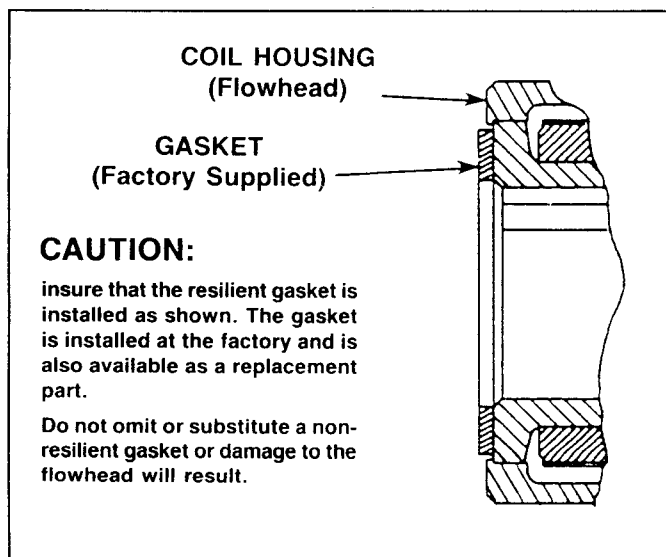

Figure 2-3 Flowhead Gasket Installation
1. Factory applied resilient adhesive backed gaskets are installed on the ends of the flowtube, as shown in Figure 2-3, DO NOT REMOVE THEM.